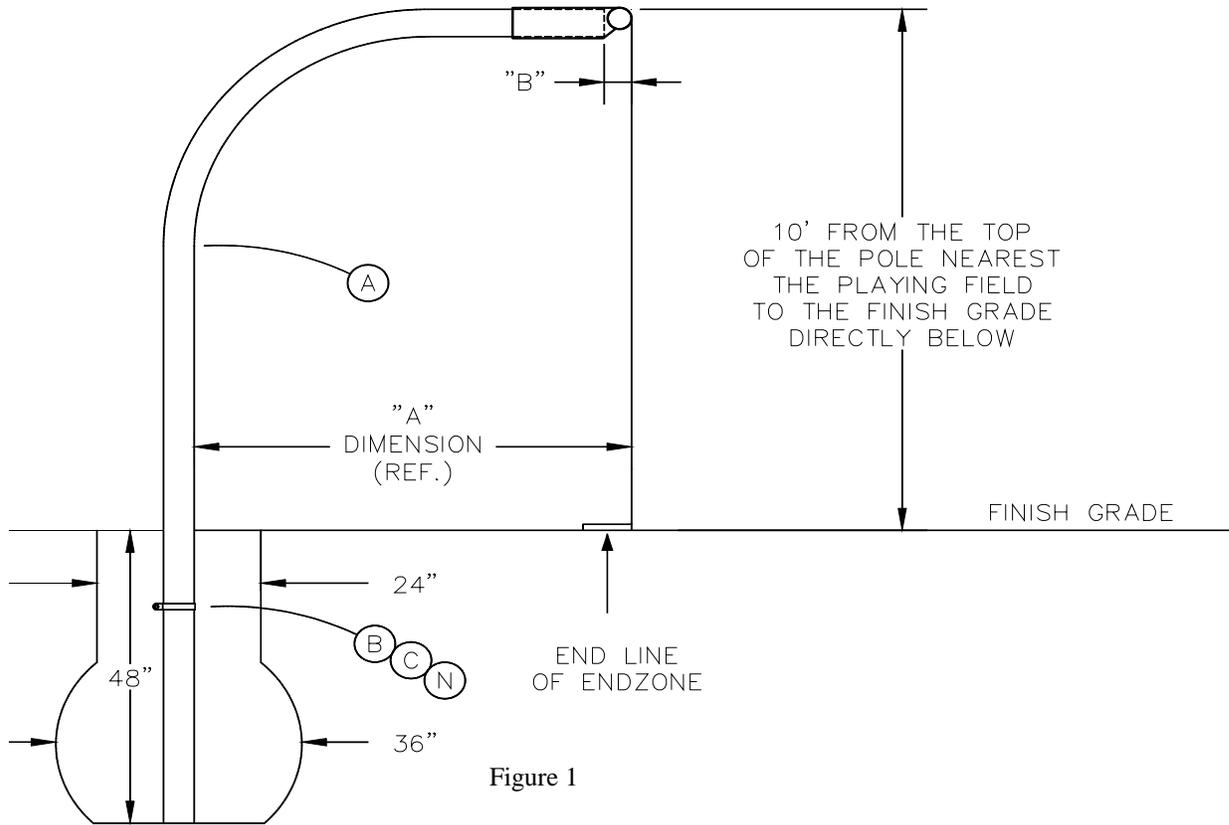

Figure 1
1. You will need to locate each gooseneck pole so that it is centered on the playing field. See chart for the distance behind the end line to locate the pole for each model. Dig a 24" diameter hole that is a minimum of 48" deep at each of these locations, it is recommended to bell out the bottom of the hole to 36" to strengthen the footing. If you are using Bison ground sleeves refer to those instructions for the proper hole depth and diameter. See Figure 1.
4. Attach the *Band Clamp* (B) with *5/16" X 2" Carriage Bolt* (C) and *5/16" Hex Nut* (N) approximately 2 feet from the bottom end of the *Gooseneck Pole* (A) (below ground level). Mix concrete according to the directions on the bag. It is advantageous to have the mixture "wet". This will increase your working time and allow batches to mix in the hole. Pour the hole to just below ground level. Insert pole into concrete while vibrating concrete to allow it to surround the pole completely. Remember to brace gooseneck pole to maintain 10' height and field orientation as previously described. See Figure 1.